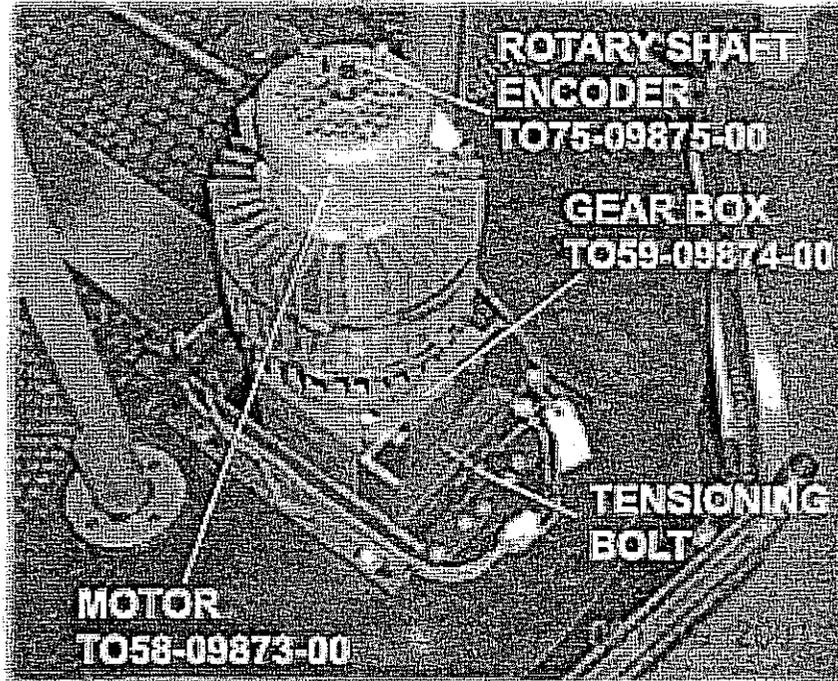
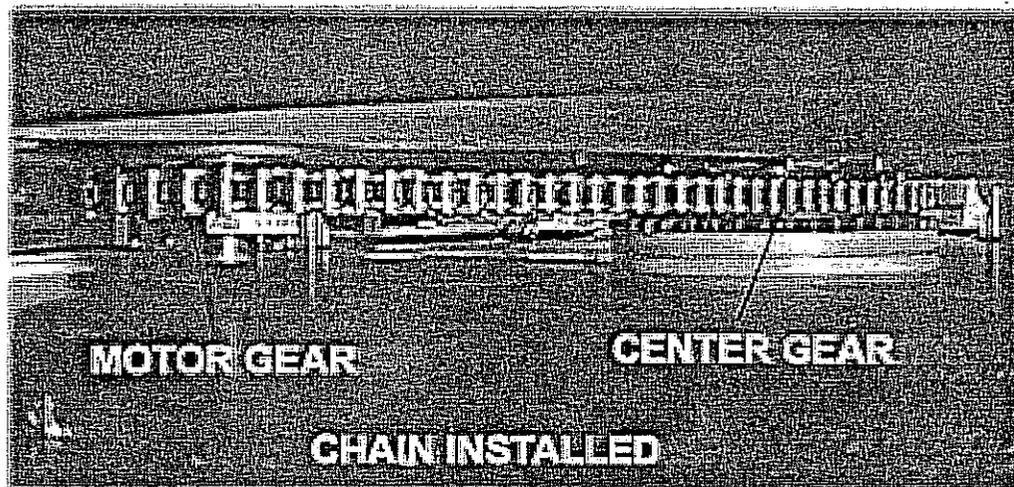

Figure 8
Figure 10
7. Place the motor into place on the floor. Reach under the floor and wrap the ends of the chain around the motor gear. (See Figure 10). Install the bolts provided into the angle iron rails. These bolts thread into the metal rail that is attached to the underside of the floor (See figure 8). Plug in harness.